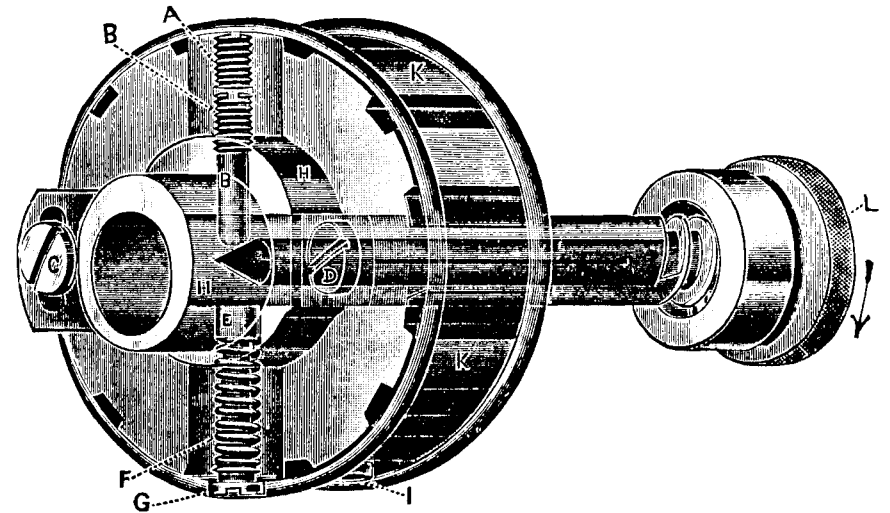

FIG. 21
The figures on the feed regulating spindle head, showing through the notch in the balance wheel, indicate the number of stitches to the inch which should be made. If more or less stitches are made, adjust as follows: Remove screw (A, see Fig. 21) set the indicator at 8 and the feed dog at its highest point, a full tooth showing above the throat plate, then adjust screw (B) until eight stitches to the inch is the result and replace check
To Set the Feed Regulator so that a Stitch Longer than the One Desired Cannot be Made. Turn the spindle head (L, see Fig. 21) in the direction indicated by the arrow and make the longest stitch possible; remove check screw (A) and turn screw (B) down until the machine places the desired number of stitches to the inch, then turn screw (A) down tightly on screw (B) as a check. The stitch may then be changed by turning spindle head (L) for a shorter stitch, but operators cannot make longer stitches than the limit that screw (B) is set to produce.
Remove screws (B and I, see Fig. 21) and compression screw (G); loosen the set screw in the belt pulley, also loosen the screw and remove the position screw from the feed lifting eccentric and from the needle bar crank; loosen the set screws from the needle bar frame driving gear pinion (on the arm shaft) and draw the shaft out from the balance wheel end of the machine.